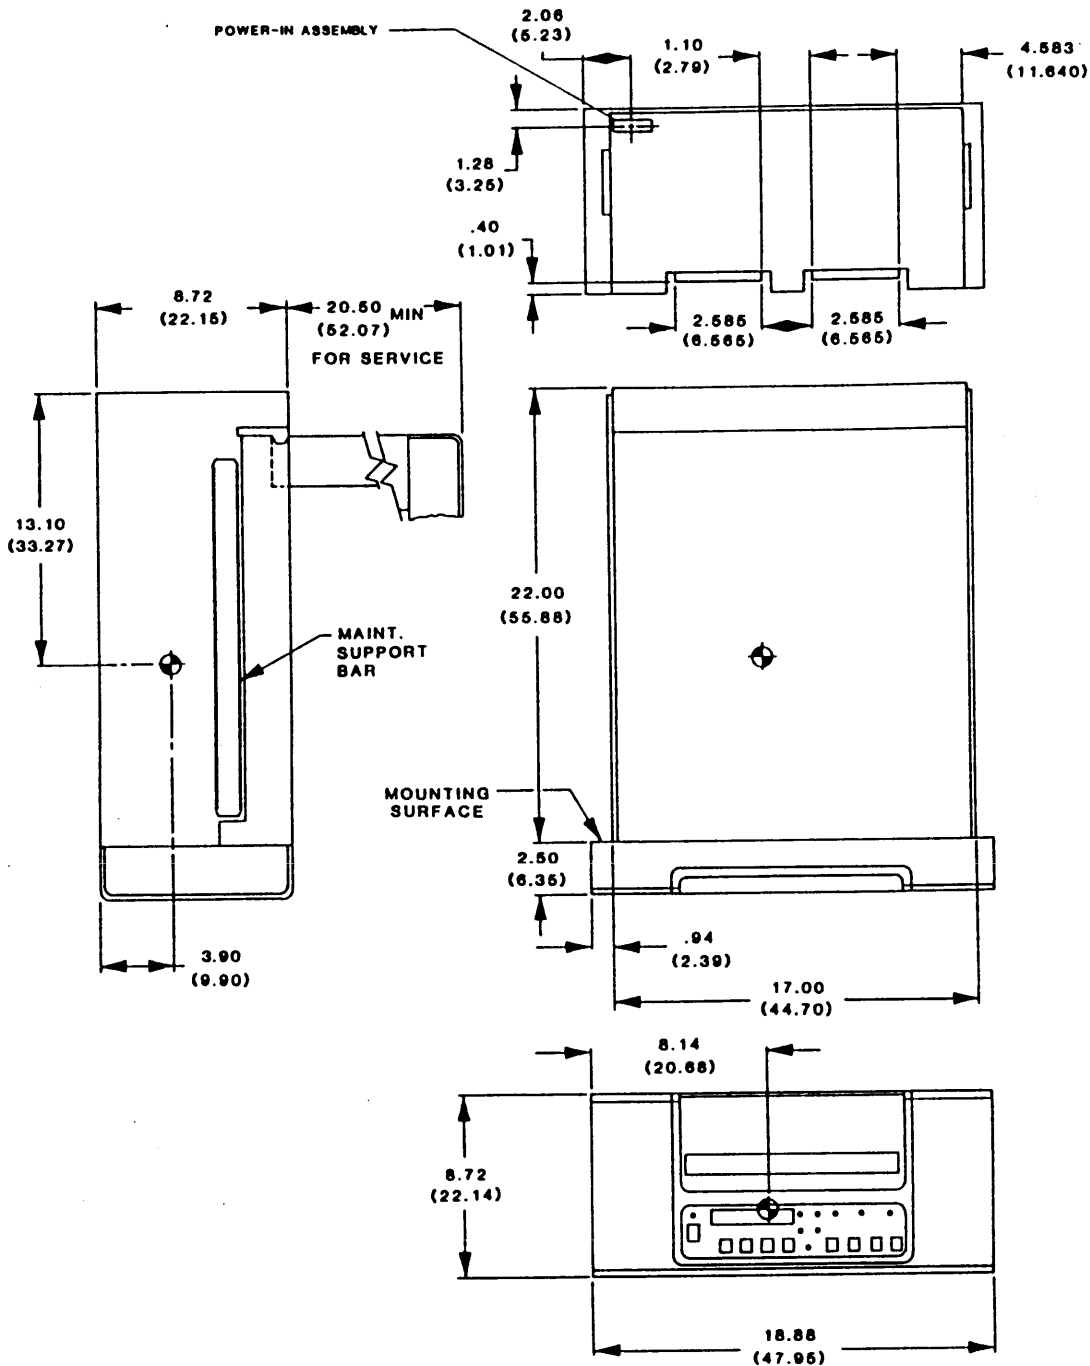
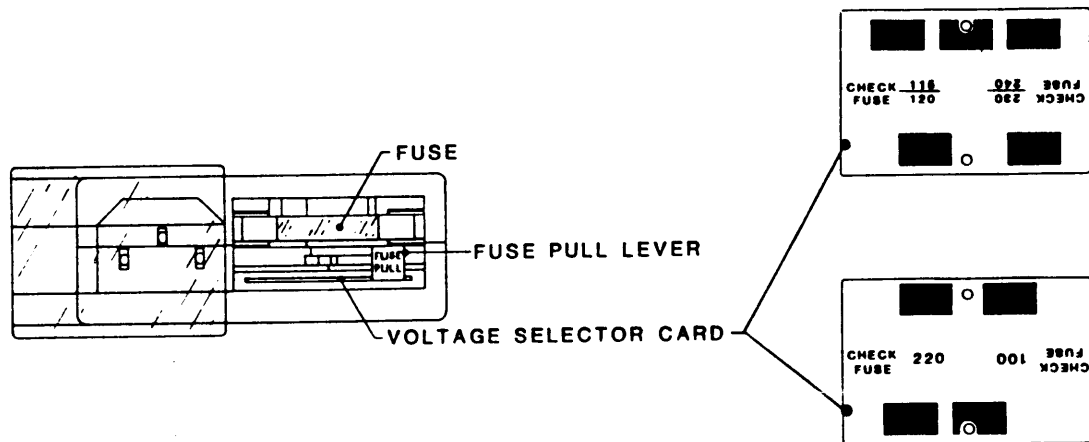
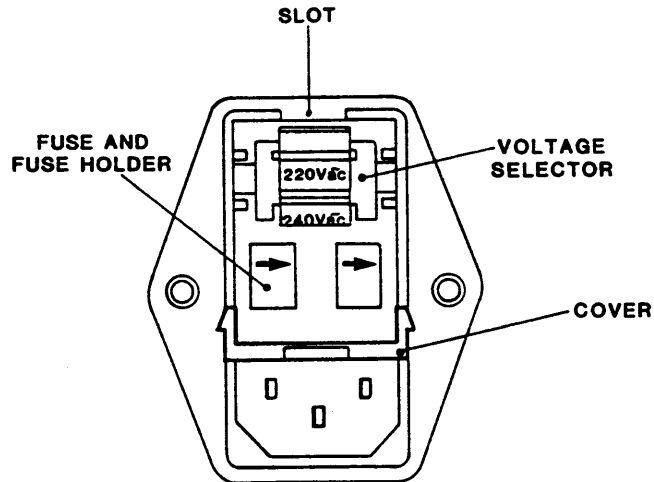

Figure 2-6. Outline and Installation Drawing, Model 9610
Figure 2-9A. Single Fuse Power-In Assembly
Figure 2-9B. Dual Fuse Power-In Assembly
Place the Drive on a flat table top with dimensions to accommodate the Drive (Figure 2-6), of sufficient strength to support the weight of the Drive, and allow sufficient clearance for maintenance access. Do Steps E and F in paragraph 2.4.2.2.
The Drive is normally factory-set for 120-volt operation. Other voltage choices can be 100, 220, or 240. Locate the Power-In Assembly (Figure 2-9A) at the rear of the unit (Figure 2-6). The Voltage Selector Card behind the plastic slide cover is installed with "120" legible. This indicates that the Drive is set for 120-volt operation. The following subparagraph describes changing this setting as necessary.
- A. Remove the AC power cord (if installed) from the Power-In Assembly (Figure 2-9A).
The Drive is normally factory-set for 120-volt operation. Other voltage choices can be 100, 220, or 240. Locate the Power-In Assembly (Figure 2-9B) at the rear of the unit (Figure 2-6). The Voltage Selector behind the plastic cover is installed with "120" legible. This indicates that the Drive is set for 120-volt operation. The following subparagraph describes changing this setting as necessary.
- A. Remove the AC power cord (if installed) from the Power-In Assembly (Figure 2-9B).